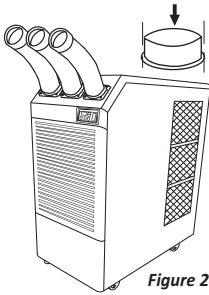

Figure 24
3. Use screws (enclosed inside of box with the top fan exhaust flange) to install the top fan exhaust flange on air conditioner as shown in Figure 24.